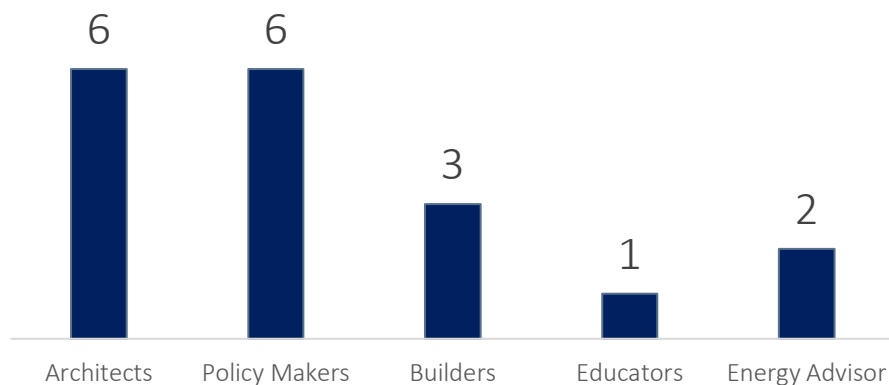

Figure 3 - Breakdown of Interviews by Type of Professional
- Figure 3- Breakdown of Interviews by Type of Professional \_\_\_\_\_ 6
Interviews were completed between mid-May and mid-July 2019, targeting a range of stakeholders involved in net zero energy residential construction. The breakdown of interviewees by category (18 interviews total) is shown in Figure 3 below: